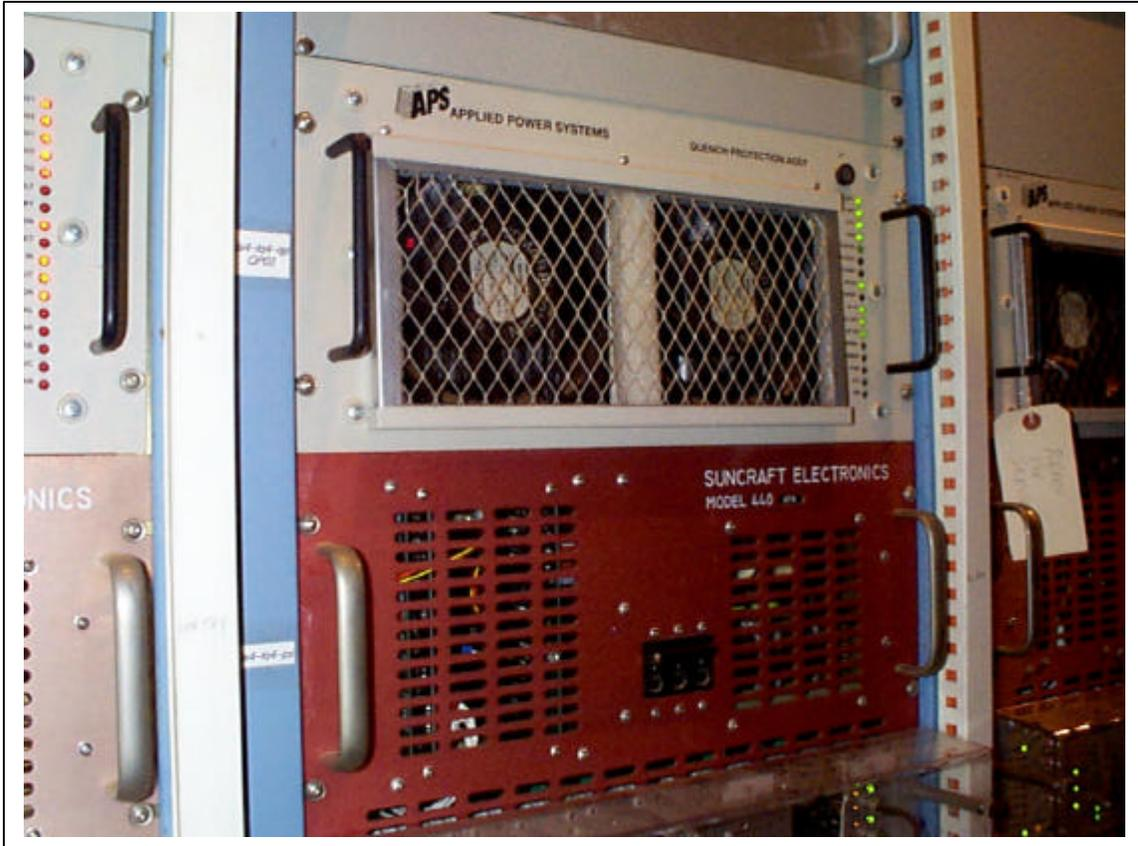

Figure 2
2. Figure 2 shows you what a QPA looks like that is sitting on top of a power supply in a rack. The red box is a power supply, it says SUNCRAFT ELECTRONICS and the QPA is the beige box sitting on top of it with the green LED's on the right hand side. It says APS on it. There are some power supplies mad by Dynapower that are blue.